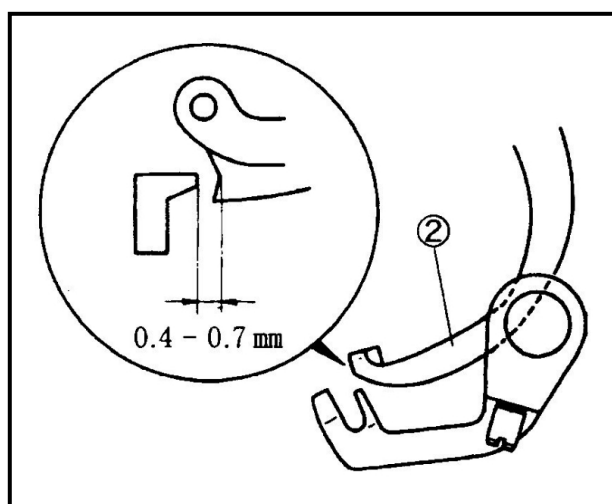

Fig.50
當大上勾針②和小上勾針①最接近時的間隙為 0.4-0.7mm。(Fig.50)
When the top cover thread hook②comes most nearly to the top cover thread carrier③, make the clearance between them to 0.4-0.7 mm during one rotation. (Fig.50)